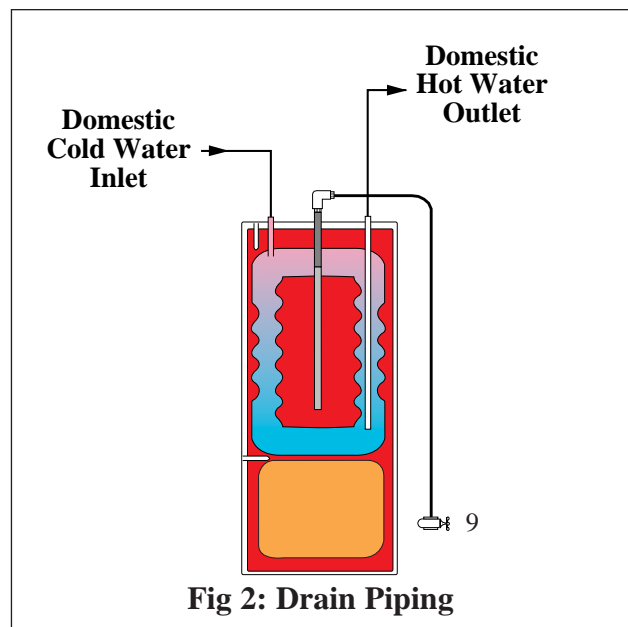

Fig 2: Drain Piping
- Refer to Fig. 2 for inner tank drain piping.
| <ul style="list-style-type: none"> 1. Shut-off valves 2. Circulator 3. Flow check valve 4. T&P relief valve 5. Unions | <ul style="list-style-type: none"> 6. Backflow preventer or pressure reducing valve(*) 8. Vacuum breaker (*) 9. Drain valve (see Fig.2) 10. Thermal expansion tank (potable) |